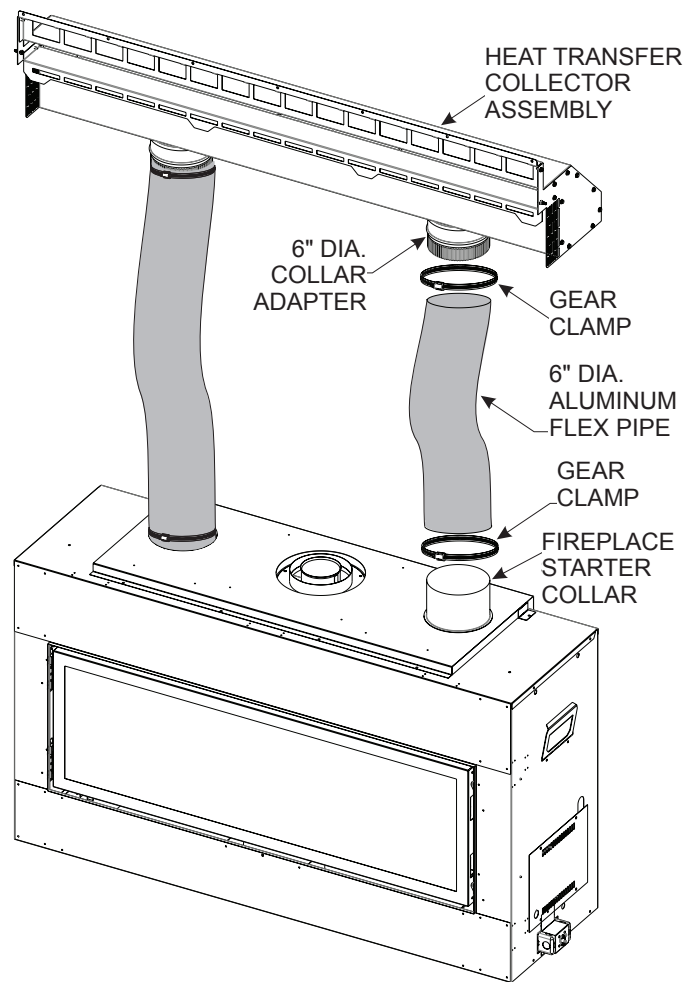

Figure 11
- Once the Heat Transfer body assembly and collars on the fireplace have been installed, measure the length of the flex duct needed for each of the two connections as shown by **Figure 11**, then cut the flex duct to the lengths needed.
- Install the flex duct sections between the fireplace collars and Heat Transfer body adapter collars. Using the band clamps provided, secure both sections of flex duct to the fireplace collars and the Heat Transfer adapter collars. **See Figure 11.**